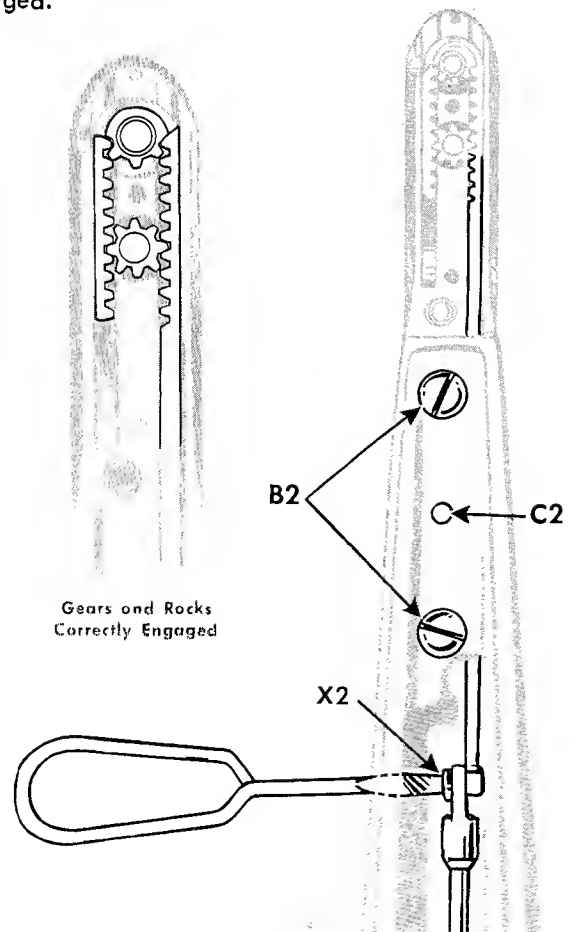

Fig. 36. Removing Rack Box
To take out the shuttle carrier, remove the small set screw in the shuttle driving pinion **W** by inserting a small screwdriver through the groove at the side of the rack box as shown in **Fig. 35**. The shuttle carrier can then be pressed through the pinion. To remove the long rack **Y**, insert a screwdriver through hole as shown in **Fig. 36** and take out the screw **X2**. Before proceeding to withdraw the rack, remove the pinion **Z**, **Fig. 35** then grip the rack and draw it straight toward the pulley end of the machine. The short rack **X** and shuttle driving pinion **W** can be removed without difficulty. When replacing any one or re-assembling the whole of these parts, care must be taken to see that the gears and racks are correctly engaged, as shown in **Fig. 36**.
If for any reason it is necessary to remove the rack box from the machine, proceed as follows: Remove the machine from its treadle stand or power bench. Turn the hand wheel until the connecting rod hinge screw **X2**, **Fig. 36** is opposite the hole in the lower arm. Then tilt the machine back upon its machine pulley end, the underside facing the adjuster. Insert a screwdriver through the hole as shown in **Fig. 36**, and remove the screw **X2**. Slightly loosen the two screws **B2** by giving them a half turn with a screwdriver. Then drive out the taper pin **C2**, using a 3/16" punch and hammer, and take out the two screws **B2**. The machine should now be replaced on its feet and the horn will then come away if pulled in a horizontal direction.
When re-assembling the box to the machine, be sure that the taper pin **C2** is driven in as far as it will go before finally tightening the two screws **B2**, **Fig. 36**.
**NOTE:** Cover plate is shown removed in **Fig. 36** to illustrate how the gears and racks should be correctly engaged.